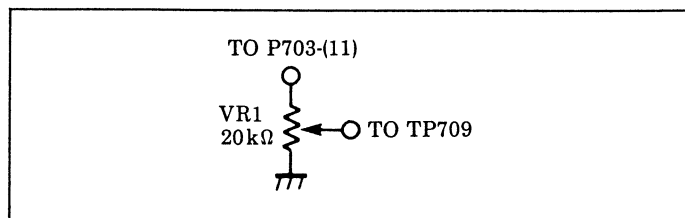

Fig. 28
3. Connect the JIG to both points P703-(11) and TP709 as shown in Fig. 28 and adjust VR1 so that the noise of waveform on the monitor scope becomes minimum.